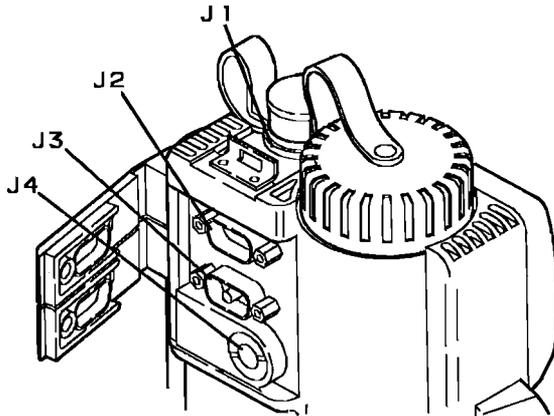

Figure 1-6 PLGR Connectors.
1.3.1 Panel Connectors/Covers. Connector J1 with pop-off cover is located on the top right side of the PLGR. Connectors J2, J3, and J4 with pop-off covers are located on the rear panel of the PLGR. Figure 1-6 identifies external connectors J1 through J4.